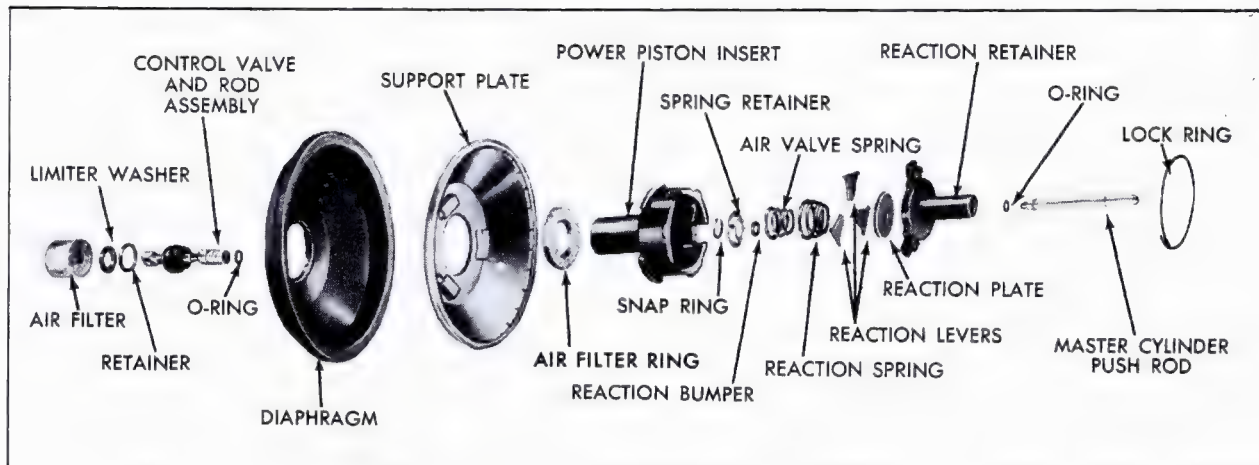

Fig. 5-23 Single Diaphragm Power Piston Disassembled
15. Remove reaction plate, three reaction levers, reaction spring, air valve spring, reaction bumper and air valve spring retainer from power piston insert, Fig. 5-23.